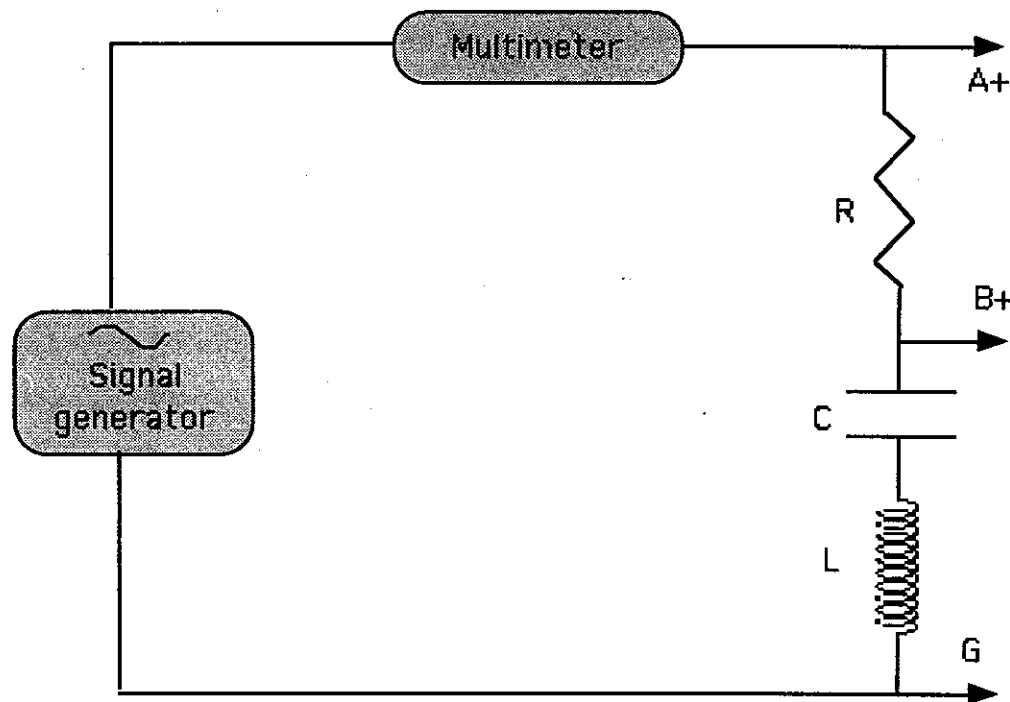

Fig. 10.3a
- (a) Make the circuit as shown in Fig. 10.3a. Do not connect the multimeter in the circuit. Switch on the signal generator. The sine wave from the signal generator provides the external AC voltage of suitable V_E and f .
- (e) Set the multimeter to read AC current and insert it in the circuit as shown in Fig. 10.3a. Record the value of the current (I) in the circuit. Make sure that the current remains constant throughout the experiment.